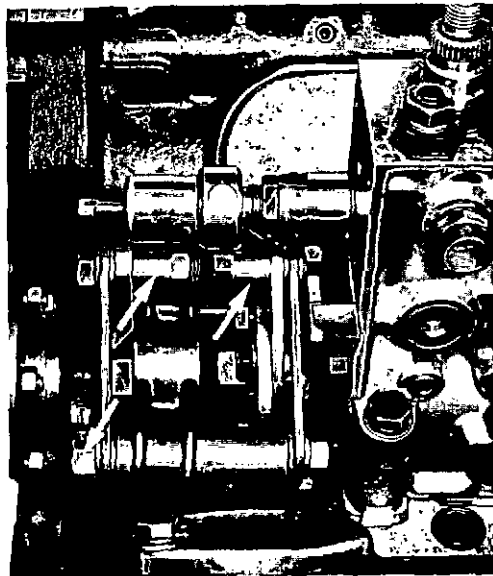

Fig. 5 Drive coupling bolts
2. At the intervals specified in the Servicing Schedule (Section 1), check the injection timing, as described in Section 2, and torque tighten the pump drive coupling bolts and nuts (fig.5) to 120 Nm (88 lbf./ft.).